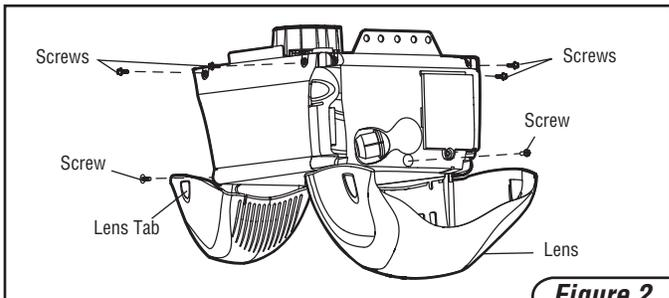

Figure 2
5. Remove the 6 cover screws (Figure 2).